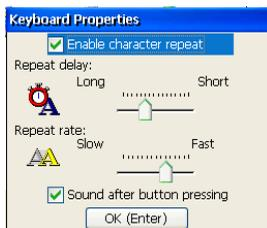
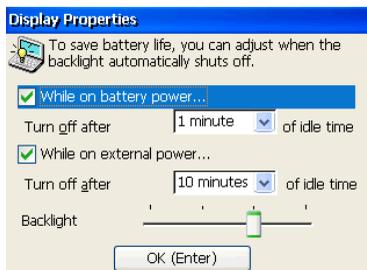

Figure 6.5
Figure 6.6
6.6.2 Figure 6.5 shows the dialog for setting the mode of buttons' operation.
Figure 6.6 shows the window for setting the screen lighting.
In the windows shown in Figure 6.5 and Figure 6.6: